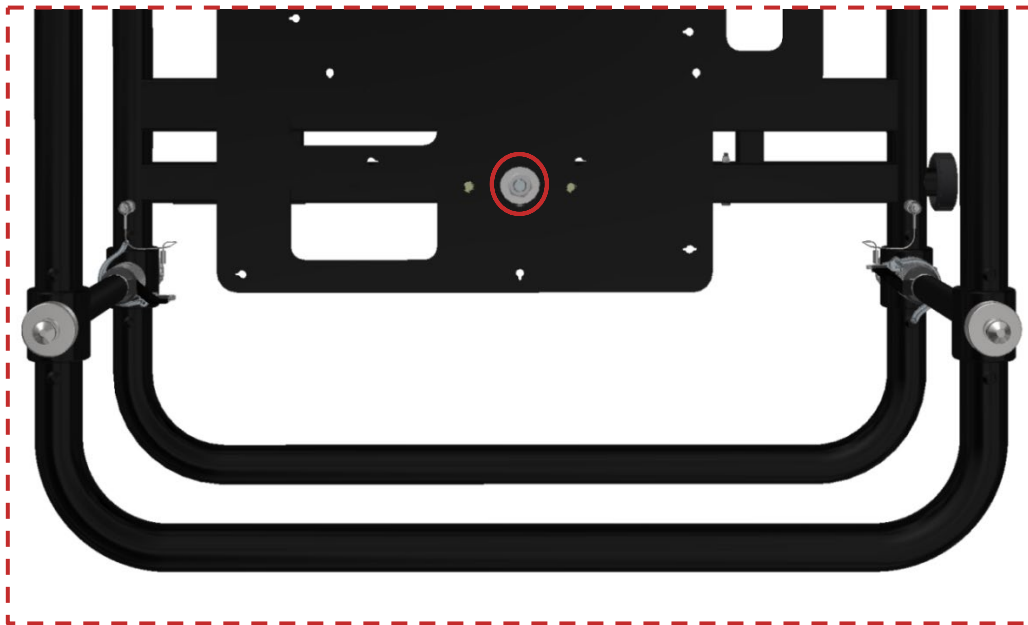

Figure 25 Nut on centre top side which is sealed with red colour wax
- On the three screws + nuts presented on the above two pictures (Figure 24 and Figure 25) red color sealing wax was applied to be sure that the nuts will always be on the same position and no one will try to tighten or loose them.
Except for the three nuts described on the previous section (see Figure 24 and Figure 25), please control, with corresponding tool, that all the other screws are properly tightened.